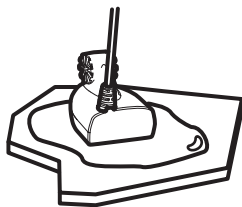

Figure 30
6. Press the transducer into place with a slight twisting motion to purge any trapped air from underneath, keeping the pointed end of the transducer body pointed forward, towards the bow (Figure 30).